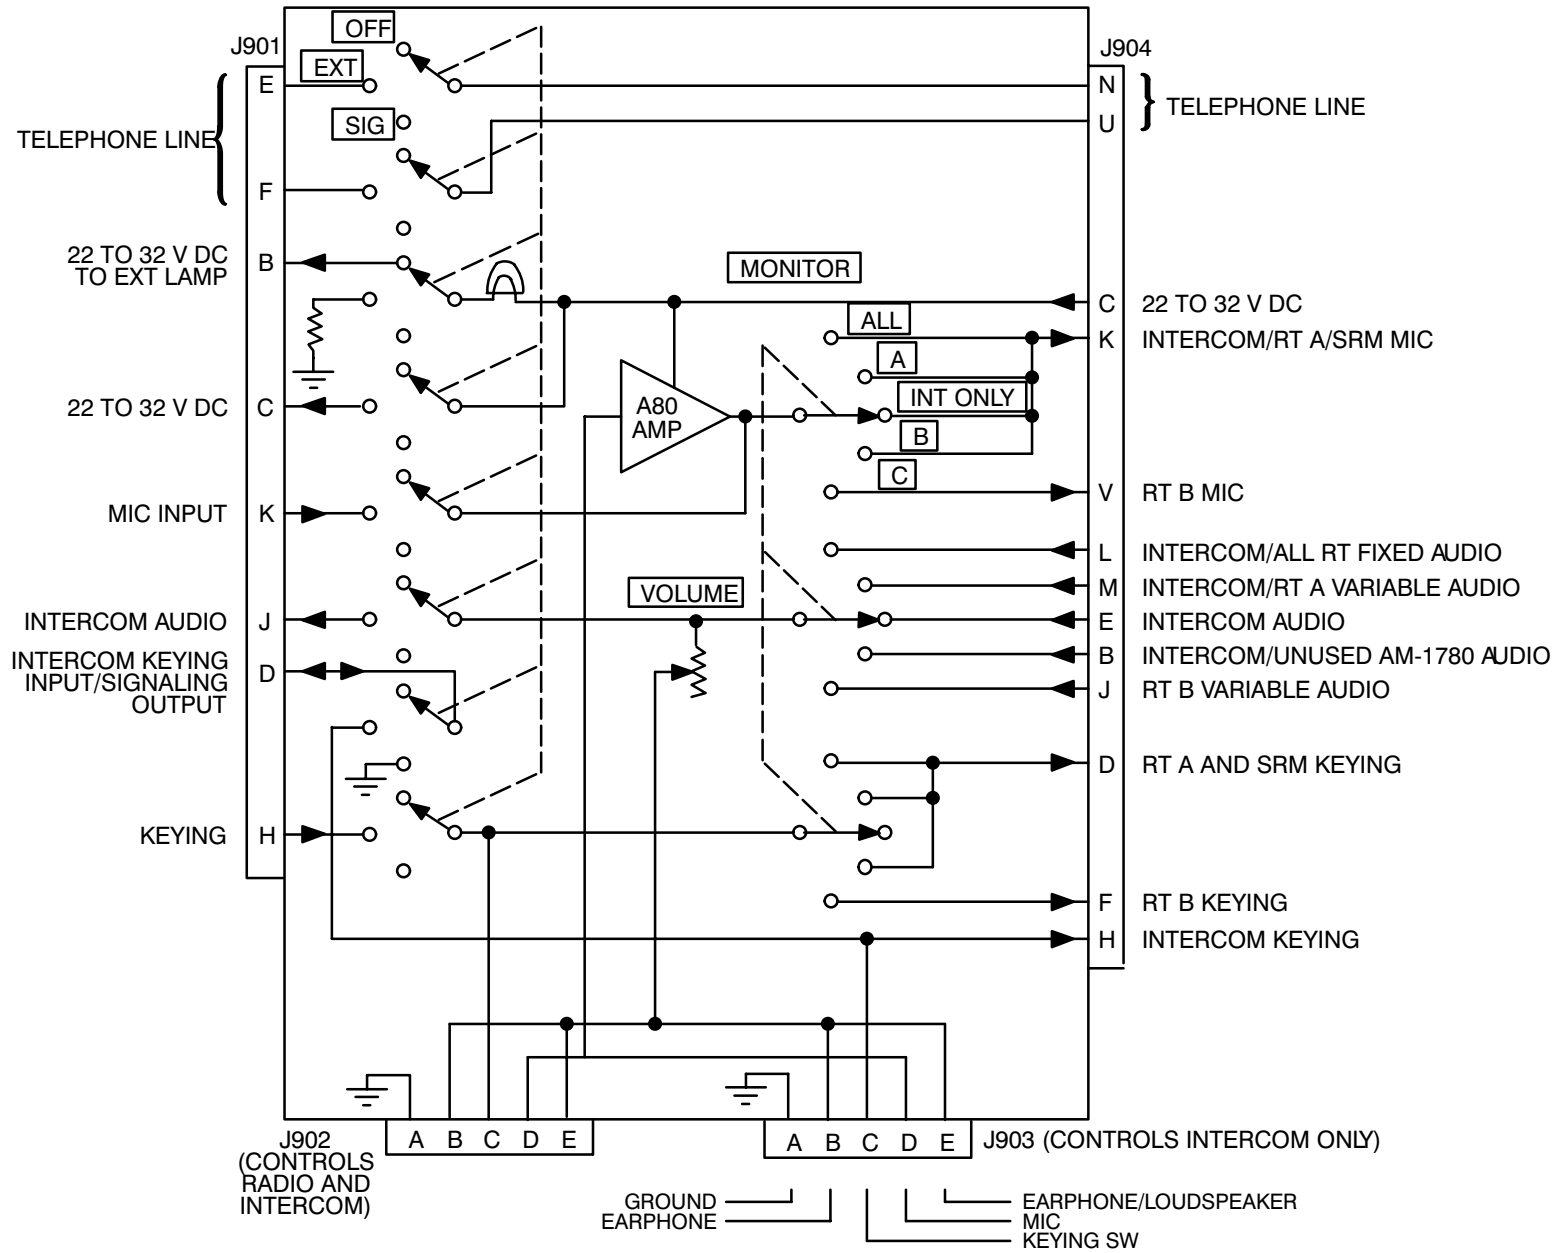

Figure 1-4. C-2297/VRC Circuit Paths
- (2) **Functions of the MONITOR Switch Positions.** Refer to Figure 1-4. The MONITOR switch is used to select the audio and mic circuits to be connected to J902 and J903. The MONITOR switch can select one of five positions. Positions "ALL" and "A" permit control of the bottom RT (RT A). Position "C" permits control of the top RT (RT B).